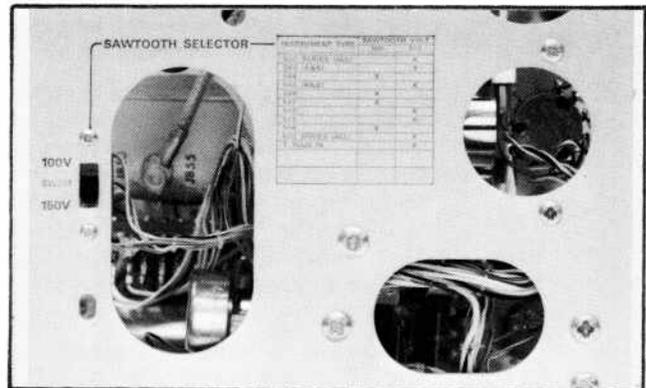

Fig. 2-4. Rear panel of the Type 1L40 showing sawtooth selector.
a. Set the Sweep Voltage selector at the rear panel (see Fig. 2-4) to the correct position (100 V or 150 V) for the oscilloscope being used. Some Tektronix Oscilloscopes and their sweep voltage output are listed on the back panel of the instrument. If your oscilloscope is not listed, check the specifications given in the oscilloscope instruction manual for the voltage swing of the sawtooth out signal.